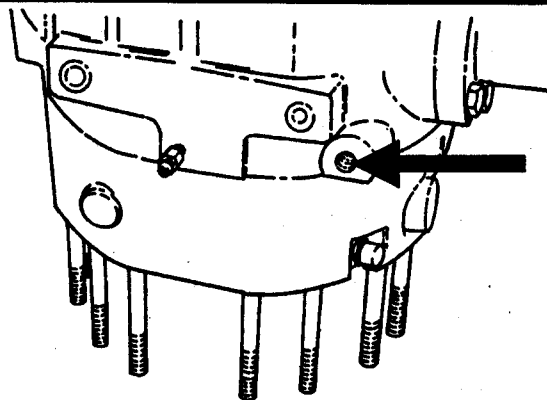

Figure 8.
12. Stand center assembly (Figure 8) on end, and apply 40-70 psi (270 - 483 kPa) to the brake line part to release brake pistons (16, Figure 4). Remove brake pistons (16). Note o-ring (17) and back-up ring (18).
**WARNING:** Perform this operation only with assembly in position shown in Figure 8. Treat compressed air with caution.